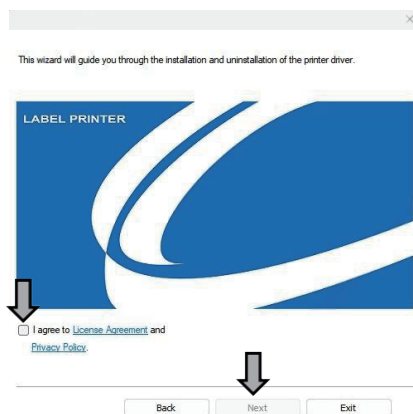

Fig.17
- ③ Proceed to the next installation screen. Carefully read the License Agreement and Privacy Policy, then check "I Agree" and click "Next" (see Figure 17).